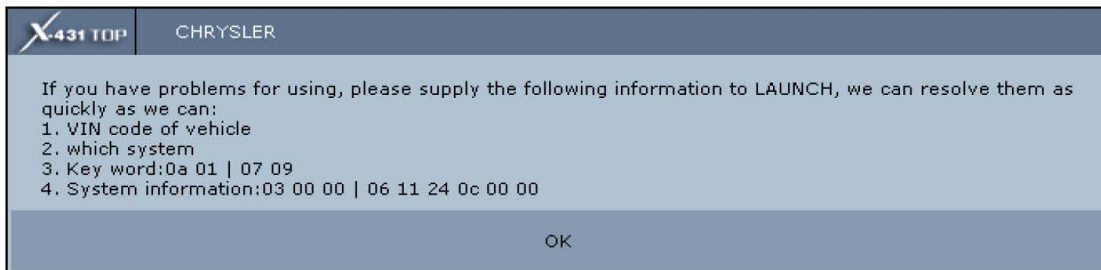

Figure 8
- A). If it is CAN protocol, the prompt box is as shown in Figure 8. This prompt box contains some key words for us to simulate the car environment, thus it helps us to solve the problem. .